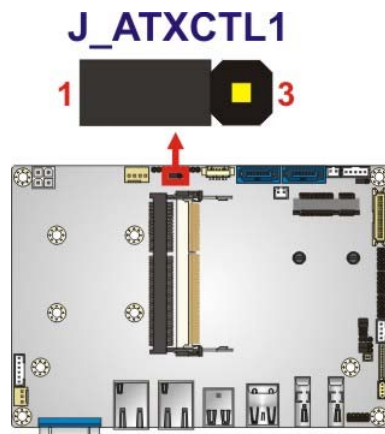

Figure 4-4: AT/ATX Power Mode Jumper Location
- Jumper Location:** See **Figure 4-4**